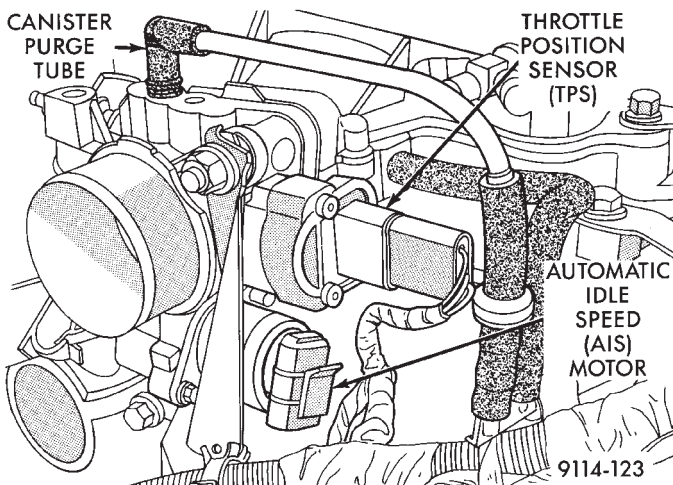
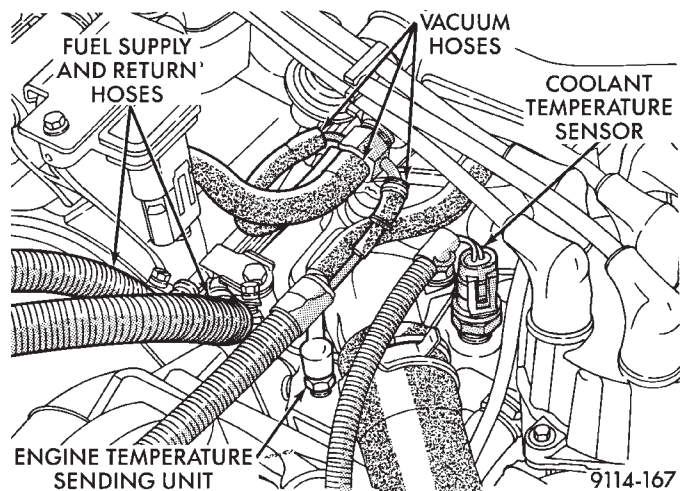

Fig. 5 Electrical and Vacuum Connections to Throttle Body
Fig. 7 Coolant Temperature Sensor Electrical Connections
(13) Connect fuel line to fuel rail (Fig. 7). Torque hose clamps to 1 N•m (10 in. lbs.).
(14) Connect vacuum harness to air intake plenum.
(15) Connect and coolant temperature sensor electrical connector to sensor (Fig. 7).
(16) Connect PCV and brake booster supply hose to intake plenum.
(17) Connect automatic idle speed (AIS) motor and throttle position sensor (TPS) electrical connectors (Fig. 5).
(18) Connect vacuum vapor harness to throttle body (Fig. 5).